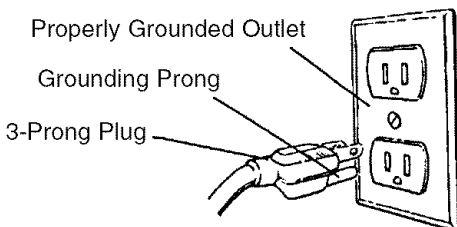

Figure 8 - 3-Prong Receptacle
- This tool is equipped with an approved cord rated at 150V and a 3-prong grounding type plug (see Figure 8) for your protection against shock hazards.
- Grounding plug should be plugged directly into a properly installed and grounded 3-prong grounding-type receptacle, as shown (see Figure 8).